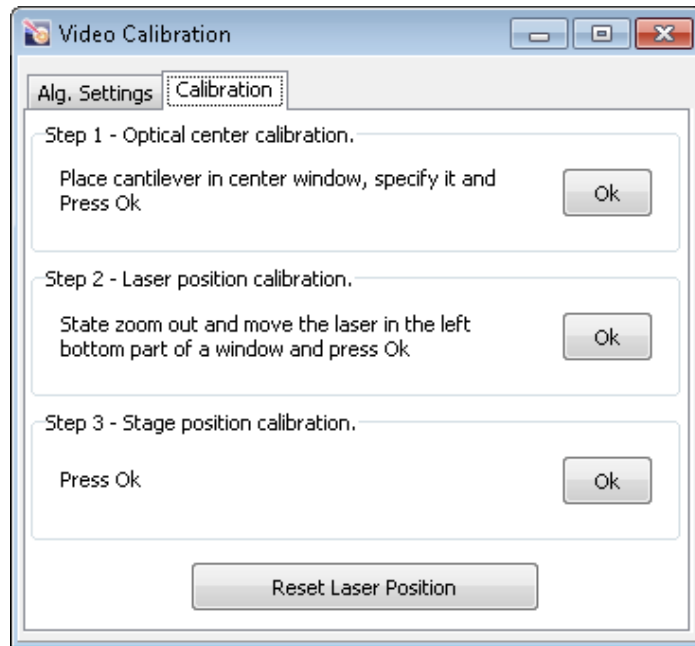
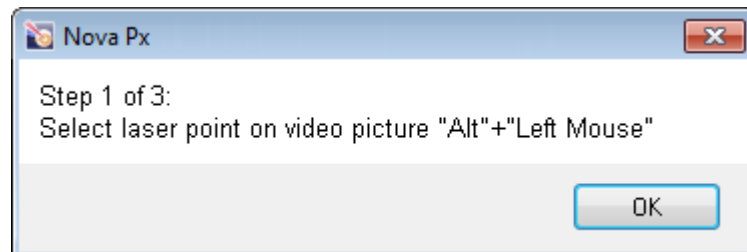

Fig. 7-7. Calibration
Fig. 7-12
The videosystem is adjusted through the **Video Calibration** window that opens by the **Tools → Motors → Video Calibration** menu command (Fig. 7-7). The **Calibration** tab provides three panels, which are related to successive step of the adjustment procedure.
5. Open the **Video Calibration** window by selecting the **Tools** → **Motors** → **Video Calibration** Main Menu command. Go to the **Calibration** tab (Fig. 7-7).
10. In the **Step 2** panel of the **Video Calibration** window (Fig. 7-7) click the **OK** button. A request for pointing to the laser spot in the videoimage will appear (Fig. 7-12), close this box by clicking the **OK** button.
2. In the **Step 3** panel of the **Calibration** tab (Fig. 7-7), click the  button. A request on pointing to a relevant point in the videoimage will appear (Fig. 7-18), close this box by clicking the **OK** button.